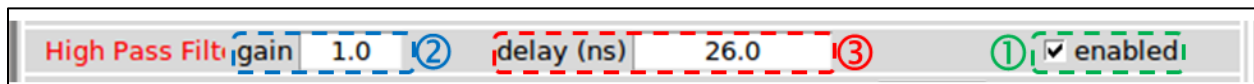

Figure 15: High-pass filter parameters
If the experimenter wants to benefit from a high-pass filter, he must check the "enable" box ① (Figure 15).
This high-pass filter is a delay-line pass-filter. The experimenter has to tune the gain from 0 to 1 ② (Figure 15), and the delay from 2 ns to 56 ns ③ (Figure 15).